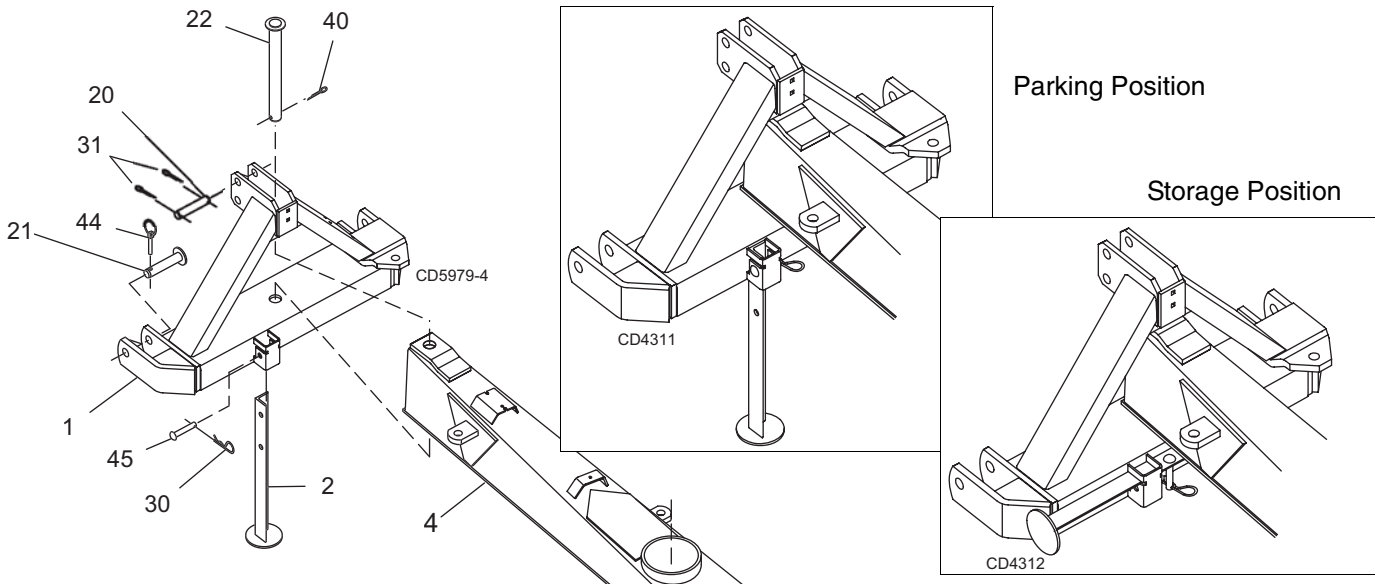

Figure 10. A-Frame to Boom Assembly
1. Position A-frame (1) over end of boom and insert pivot pin (22). Secure with cotter pin (40).
2. Attach parking stand (2) in parking position as shown in Figure 10. Secure with clevis pin (45) and safety pin (30).